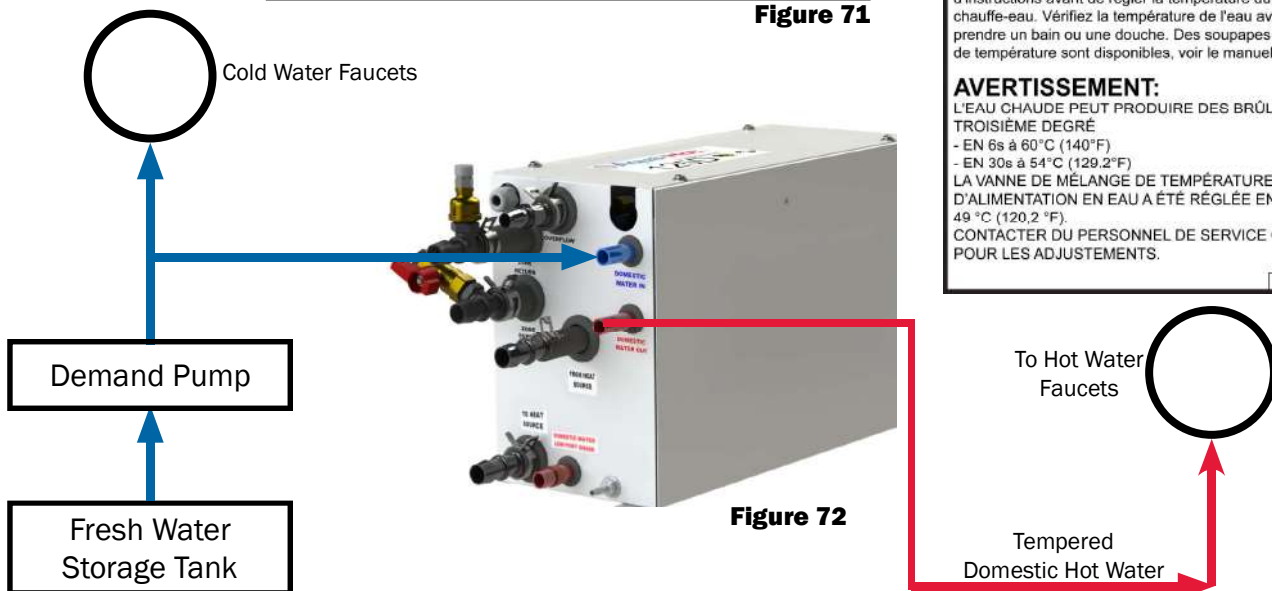

Figure 72
- Plumb the domestic water system according to Figure 72.